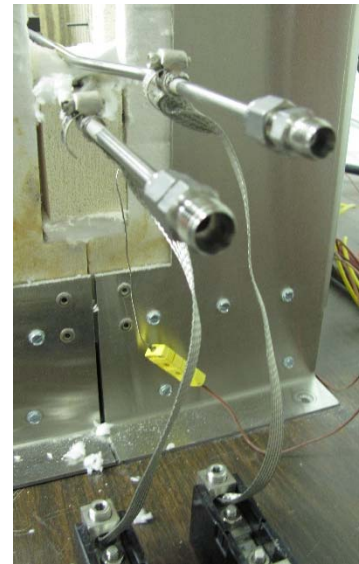

Figure 24
17. Make the appropriate gas inlet and current cable connections (Figure 24). Usually the outlet tubes are left unconnected during heat-up to allow easy clean-up of any binders that condense at the end of the tubes.